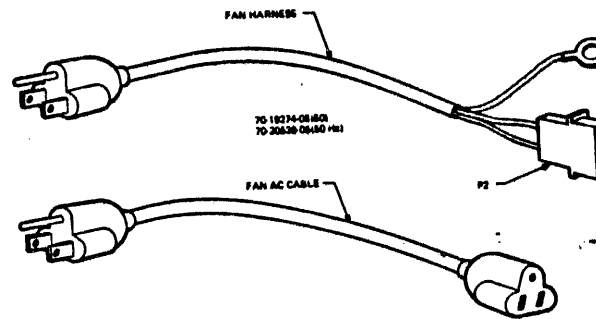

Figure 3-10. Fan AC Cable
11. Locate the fan harness, Figure 3-10, DEC part number 7019274-06, (120 vac 60 Hz) or 7020379-06 (240 vac 50 Hz), and connect P2 to J2 on the CI card cage. Connect the fan harness and fan AC cable (figure 3-10) together. Connect the other end of the fan AC cable to any available switched outlet on the 861 power controller. Connect the ground wire to the adjacent ground screw on the CI card cage. Use a star washer to ensure a good electrical connection.